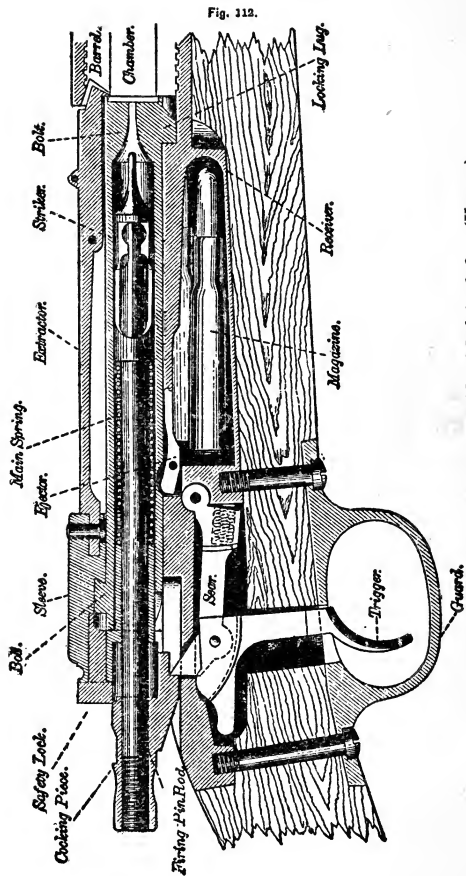

FIG. 36.—United States Magazine Rifle, Model 1898. (Kraag.)
**185. NOMENCLATURE.** This rifle is composed of 87 parts, the most important of which are shown in Figs. 36 and 37.
The position then occupied by the parts is shown in Fig. 36.